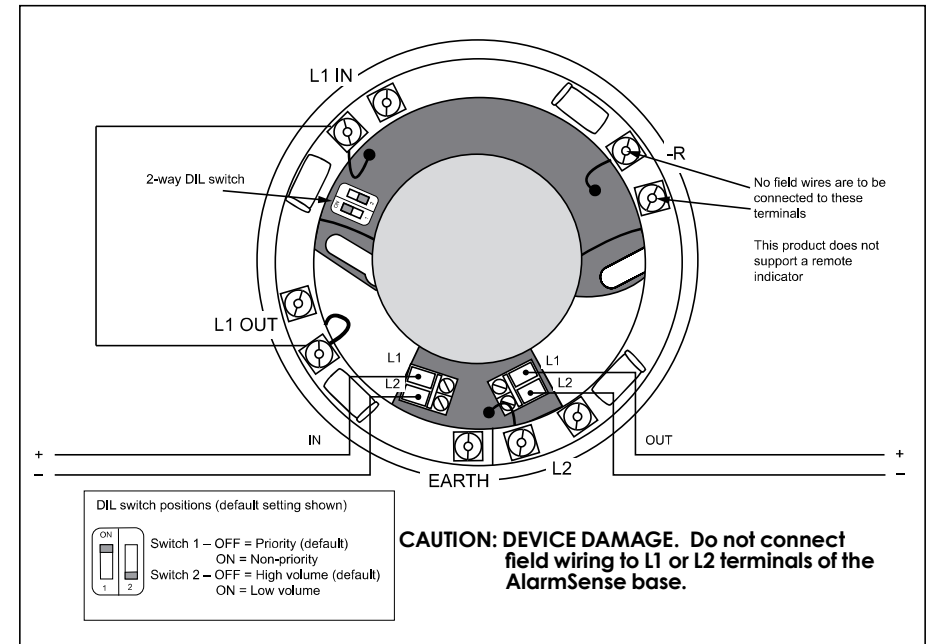

Fig. 2b Stand-alone Sounder/Sounder Visual Indicator Base
With reference to **Fig 2b**, for stand-alone sounders or sounder visual indicators, fitted with either a white cap, Part No. 45681-294 or red cap, Part No. 45681-295, carry out the following:
2. A wire link (not supplied) is required between L1 IN and L1 OUT on the outer ring terminals to disable the head removal signal, as shown in **Fig 2b**.